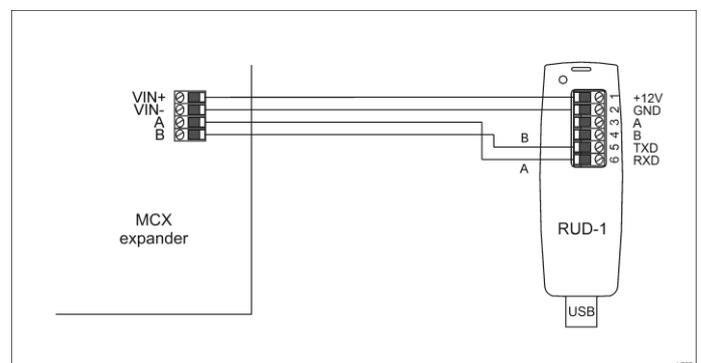

Fig. 2 Connection of the expander to RUD-1 interface (firmware update)
The firmware of device can be changed to newer or older version. The update requires connection to computer with RUD-1 interface (fig. 2) and starting RogerVDM software. The latest firmware file is available at [www.roger.pl](http://www.roger.pl).
1. Connect the device to RUD-1 interface (fig. 2) and connect the RUD-1 to computer's USB port.